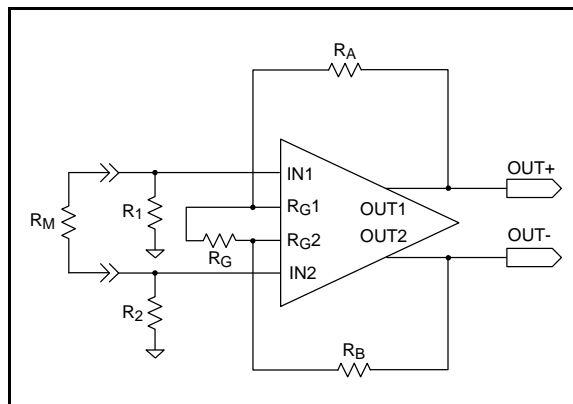
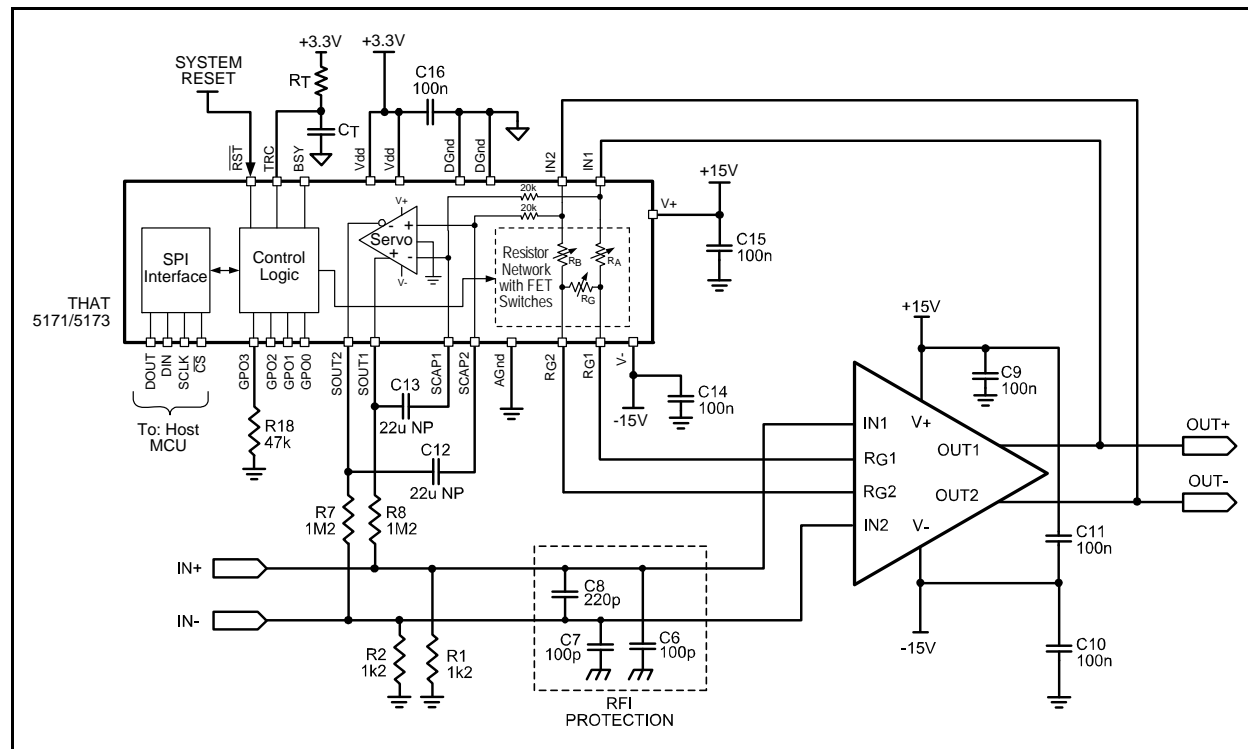

Figure 12. Simple THAT1583 Amplifier Circuit
Figure 17. Basic Application Circuit With THAT 5171/5173 Digital Controller
5. Unless otherwise noted, feedback resistors = 2.21 kΩ; CL = 10 pF. Circuit is as shown in Figure 12.
Referring to Figure 12, the THAT1583's differential voltage gain ( $G$ ) is set by the feedback resistors ( $R_A$  and  $R_B$ ) and  $R_G$ , as shown in the following equation. The amplifier's minimum gain is unity (0 dB), which occurs with infinite  $R_G$ . The feedback resistors should nominally be equal, though tight tolerance matching is not required.
The noise performance of a preamplifier based on the 1583 is determined as the sum of several noise sources. These are as follows (refer to Figure 12 for component reference designators):
In the circuit of Figure 12, the amplifier's differential gain (G) extends to dc. As a result, the differential dc offset at the outputs will vary with gain. This can produce audible "thumps" when gain is varied quickly, and can produce significant and undesirable output dc offset at maximum gain. Any such offset will reduce the output voltage swing.
Figure 17 shows a THAT5171 or 5173 Digital Controller connected to the 1583. The controller varies  $R_A$ ,  $R_B$  and  $R_G$  (from Figure 12) to produce the desired gain based on the gain command provided via the SPI control interface. The feedback network